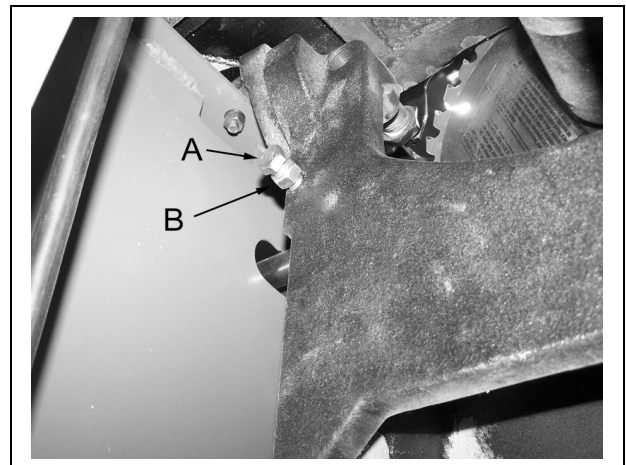

Figure 18
4. Lock the shaft into place by turning the bolt (A, Figure 18) until it secures the shaft, then tighten the bolt with the jam nut (B).